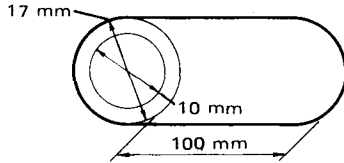

Fig. 1.47
**Example.** A pipe has the dimensions shown in Fig. 1.47. Find its volume.